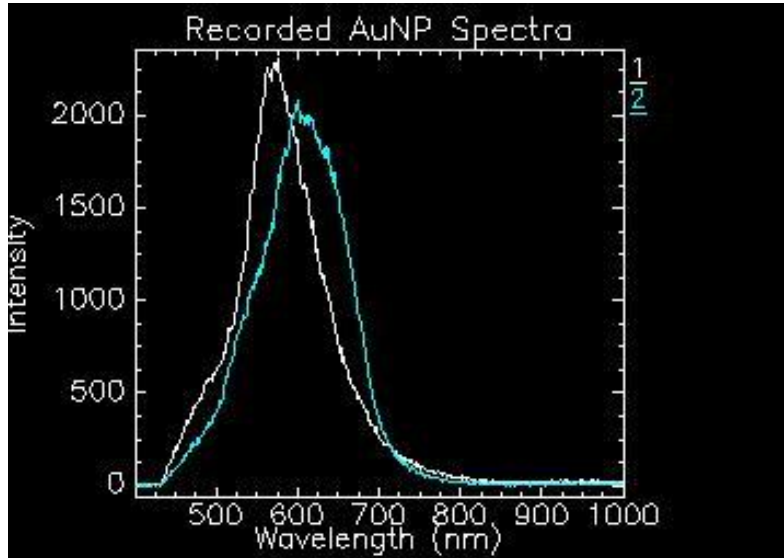

Figure 6.3b. The uncorrected spectra
- In the assignment window, select the normalized lamp spectrum for S2 (Figure 6.3b/c).